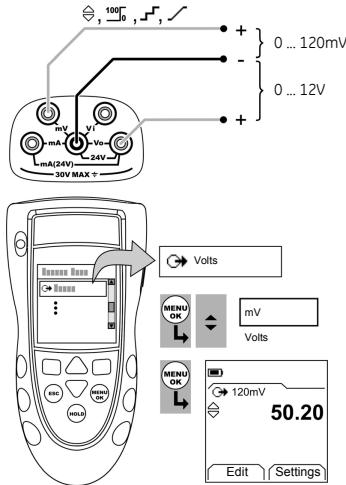

Figure 2: Example configuration - To supply mV or Volts
1. Connect the instrument (Figure 2) and, if necessary, adjust the Set Up (Table 1).